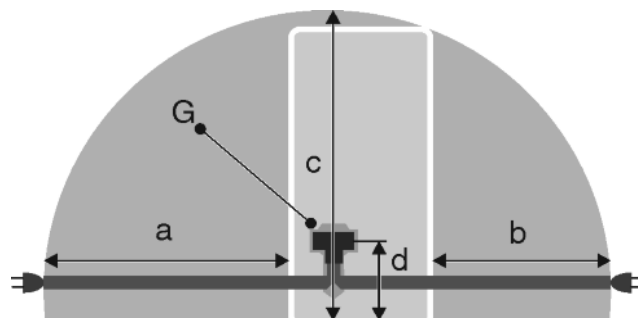

Fig. 48
- The socket is outside the back of the appliance area in the specified area *Fig. 48 (a, b, c)*.
- Insert the appliance plug *Fig. 48 (G)* into the back of the appliance. Ensure that it clicks into place.